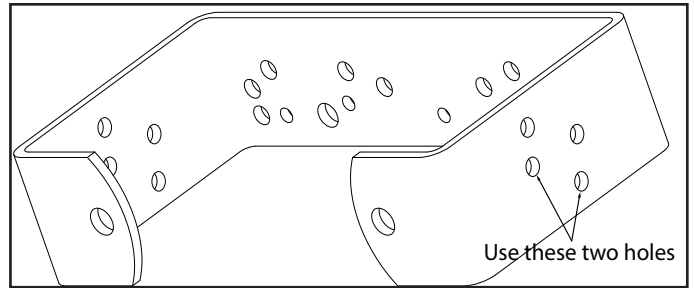

FIGURE 7
Figure 7 shows holes to use when installing the weight bracket (1). The open side of weight bracket (1) needs to face downwards.